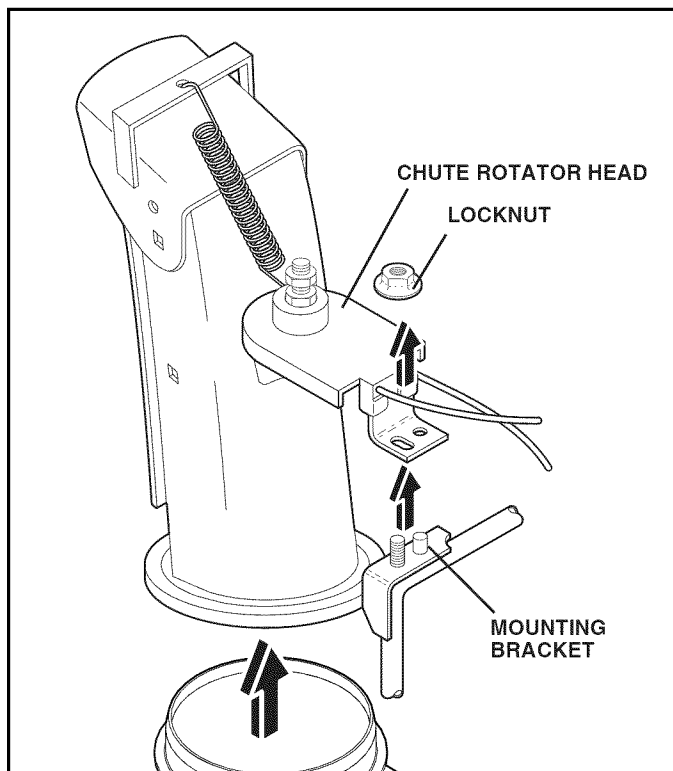

FIG. 19
2. REMOVE DISCHARGE CHUTE - Remove lock nut securing chute rotator head to mounting bracket to allow chute rotator head to be raised and discharge chute to be removed from snow thrower. See Fig. 19.